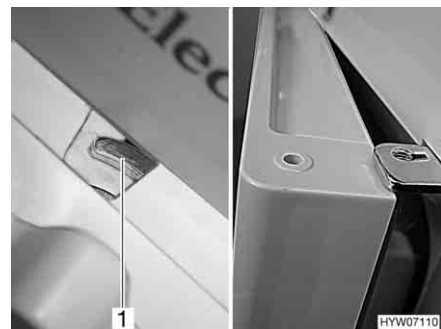

Fig. 192 Refrigerator door/freezer compartment door in ventilation position (Dometic 7 series with separate freezer compartment)
- Push the lock completely to the right. The door latch (Fig. 192,1) keeps the refrigerator door/freezer compartment door in a fixed position. The refrigerator door/freezer compartment door will then stay slightly open (Fig. 192).